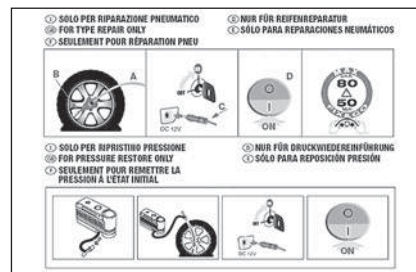

fig. 8
- instruction booklet (see **fig. 8**), to be used for prompt and proper use of the quick repair kit and to be then handed to the personnel charged with handling the treated tyre;